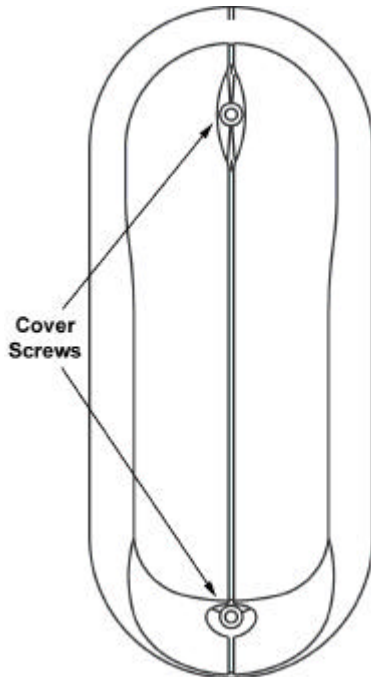
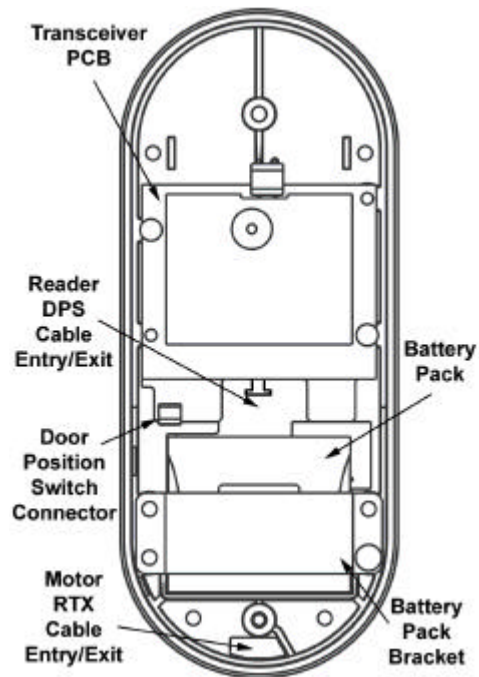

Figure 2-13 – Transceiver Cover
Figure 2-14 –Transceiver Base Plate Components
The Transceiver consists of two major components: the Transceiver Cover (Figure 2-13) and the Transceiver Base Plate (Figure 2-14). The Transceiver is mounted on the inside of the door.
- 2.10.1.1 Make certain that the Reader Cable is routed out the back of the Transceiver Base Plate in the opening just above the Battery Pack location (Reader/DPS Cable Entry/Exit, Figure 2-14).
- 2.10.1.2 Make certain that the Motor & Request to Exit Cable and Gray Ground Wire (ring terminal toward the Transceiver) are routed out the back of the Transceiver Base Plate in the opening at the bottom of the Transceiver Base Plate (Motor/RTX Cable Entry/Exit, Figure 2-14).
- 2.10.1.6 If the optional Door Position Switch is being installed, the wires coming from this switch should already be coming out the Reader Cable Hole and need to be routed through the Transceiver Base Plate in the opening just above the Battery Pack (Reader/DPS Cable Entry/Exit, Figure 2-14).